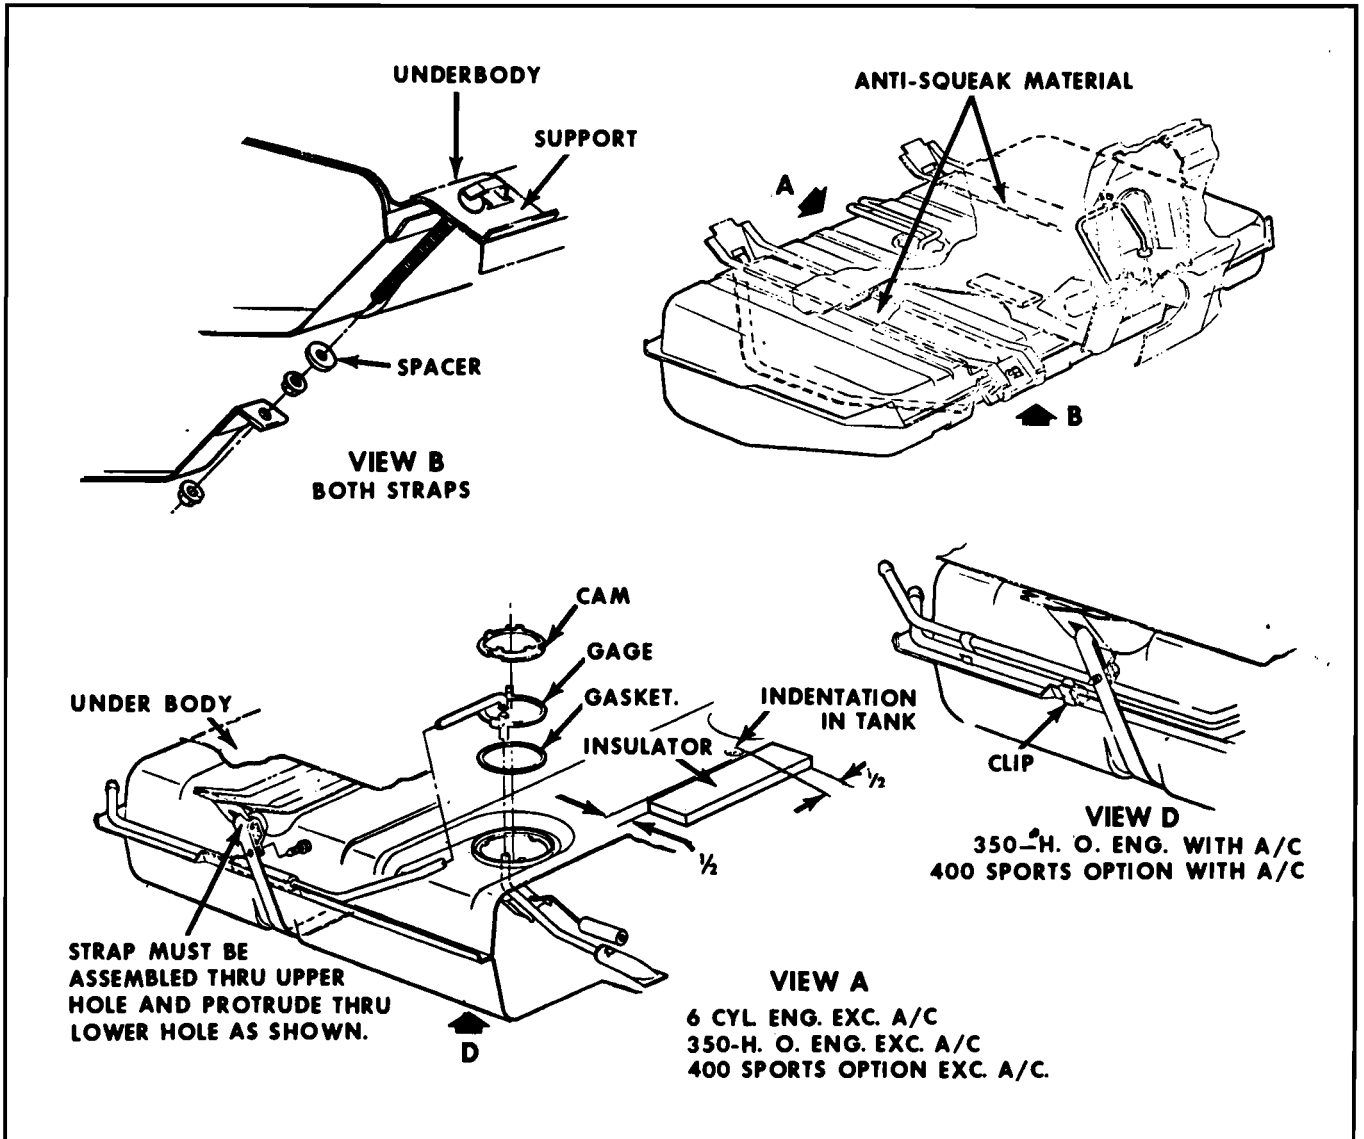

Fig. 8-7 Installation of Fuel Tank - Firebird
4. Remove screw retaining ground wire (Fig. 8-7 or 8-8).